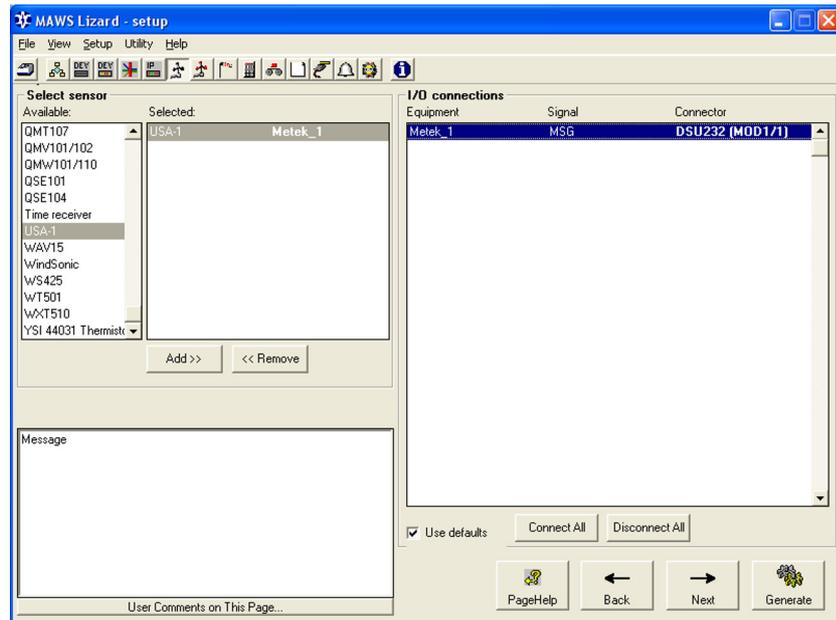

Figure 29 Equipment View: Selecting I/O Connection for Ultrasonic Anemometer
2. Proceed to the **Equipment** view; see Figure 29 on page 70.